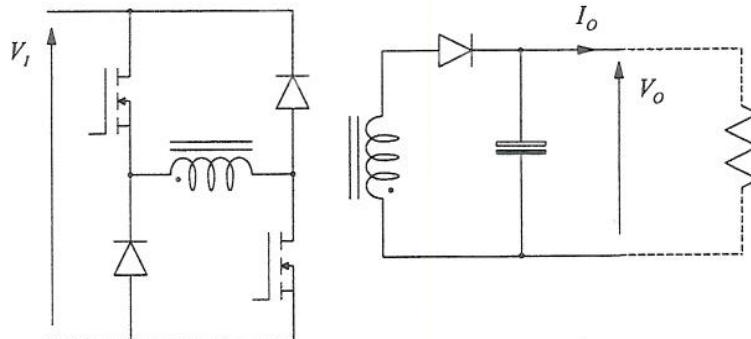

Figure Q1
- (c) Explain the advantages and disadvantages of the double-switched flyback SMPS of figure Q1 over the single-switched version. [5]